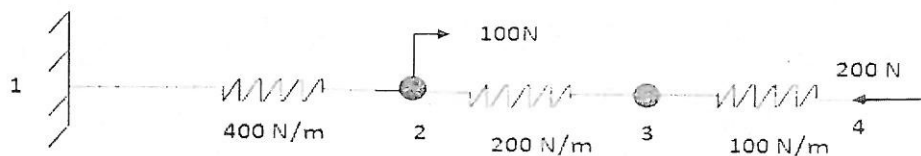

Fig. 1.
- Q.2. For the spring assemblage shown in figure.1. Obtain 18